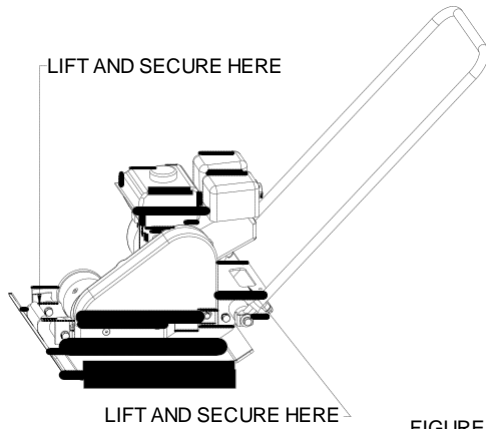

FIGURE 2
1. The unit can be lifted by the handles in front and back of the unit as shown in figure 2.
4. Place a clean metal rod or screwdriver (less than 1/4" diameter and at least 6" long) into the exciter housing. Use the rod to rotate the exciter shaft into the position shown in Figure 2.